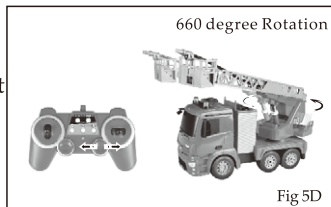

Fig 5D
- After starting the car, to press the Left/Right Rotation, the Operation station would do a motion of left/right rotation with sound. At the same, the alarm light on the top of the cab would flash and the lights of front and back would light on(Fig 5D).